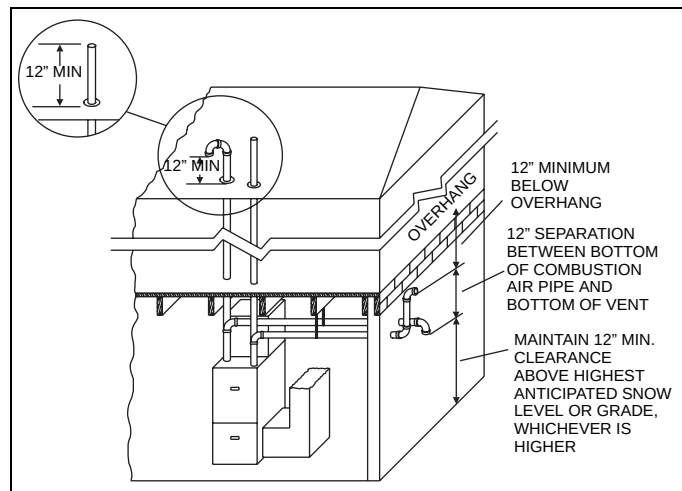

FIGURE 19: Termination Configuration - 2 Pipe Basement
7. Sealed combustion air systems must be installed so the vent and the combustion air pipes terminate in the same atmospheric zone. Refer to Figures 19, & 21.